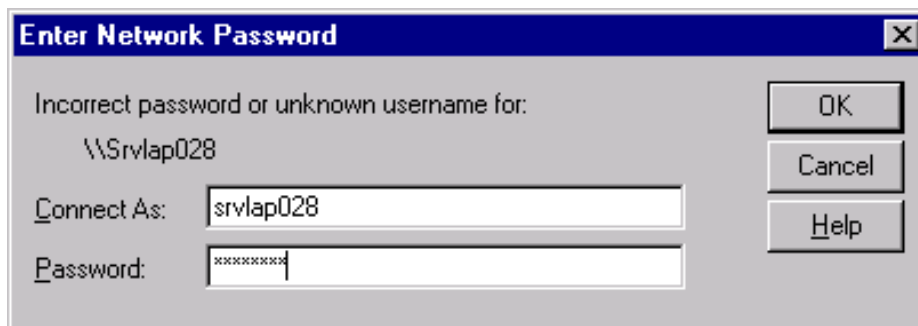

FIGURE 26. NT Laptop Password Dialog
- 8.47 A Network Password window should soon appear indicating an incorrect user name or password. This is normal. Enter the computer's name (SRVLAP028) in the Connect As: field by removing the "\\\" portion of this listed field. Also remove "\\NAD software". Enter the word "password" in the Password field. Press the Enter key. See Figure 26.